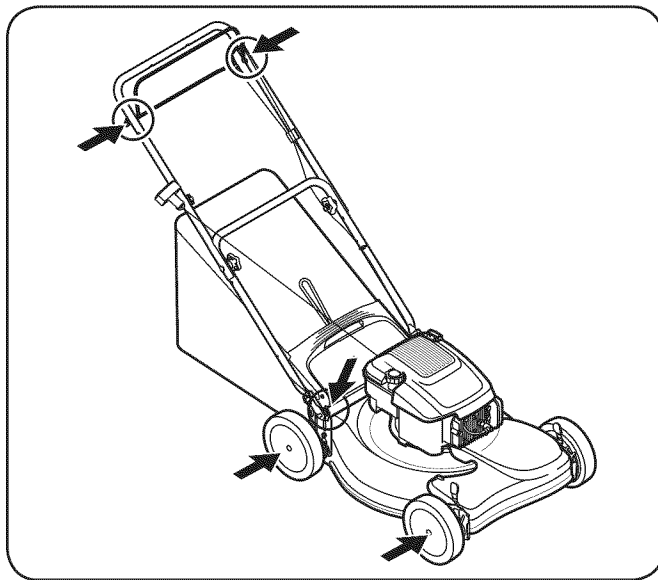

Figure 6-1
1. Lubricate pivot points on the blade and drive controls at least once a season with light oil. These controls must operate freely in both directions. See Fig. 6-1.
2. Lubricate the wheels at least once a season with light oil (or motor oil). If wheels are removed for any reason, lubricate surface of the pivot arm and inner surface of the wheel with light oil. See Fig. 6-1.
3. Lubricate the torsion spring and pivot points on the rear discharge door periodically with light oil to prevent rust. See Fig. 6-1.